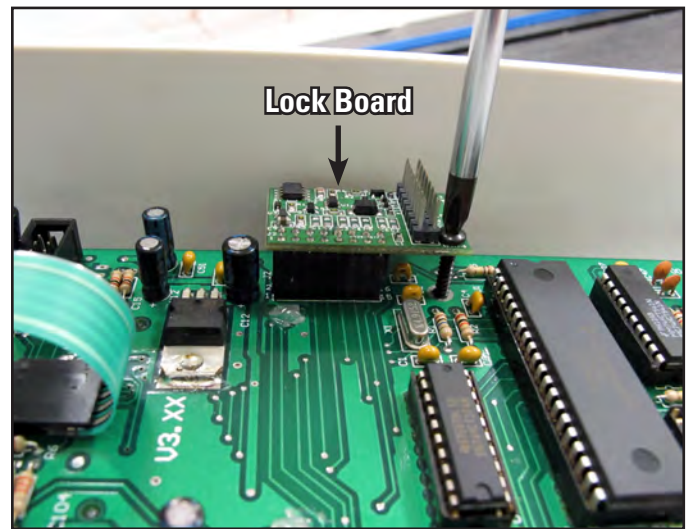

Figure 3.42
4. If the new C-Pod includes a Lock Board as shown in **Figures 3.42 and 3.43**, skip ahead to step 8.
5. Remove the black Phillips screw that holds the Lock Board in place on the old C-Pod circuit board (**Figure 3.42**).